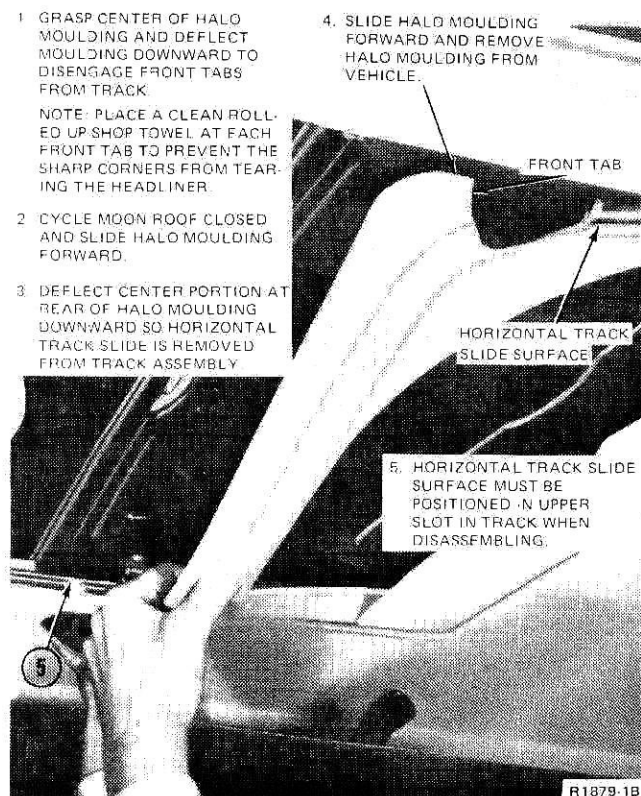

FIG. 3 Halo Moulding Removal
5. For all other car lines, cycle the moon roof to a nearly closed position and pull the forward center of the halo moulding downward so the horizontal tabs at the front of the halo moulding are removed from the track mechanism as shown in Fig. 3.